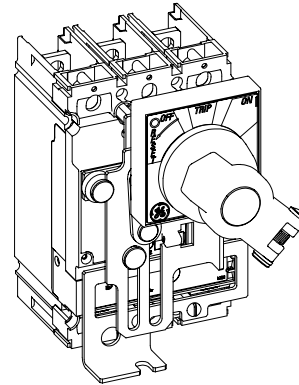
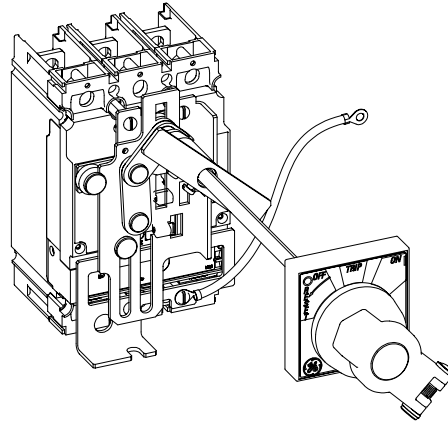
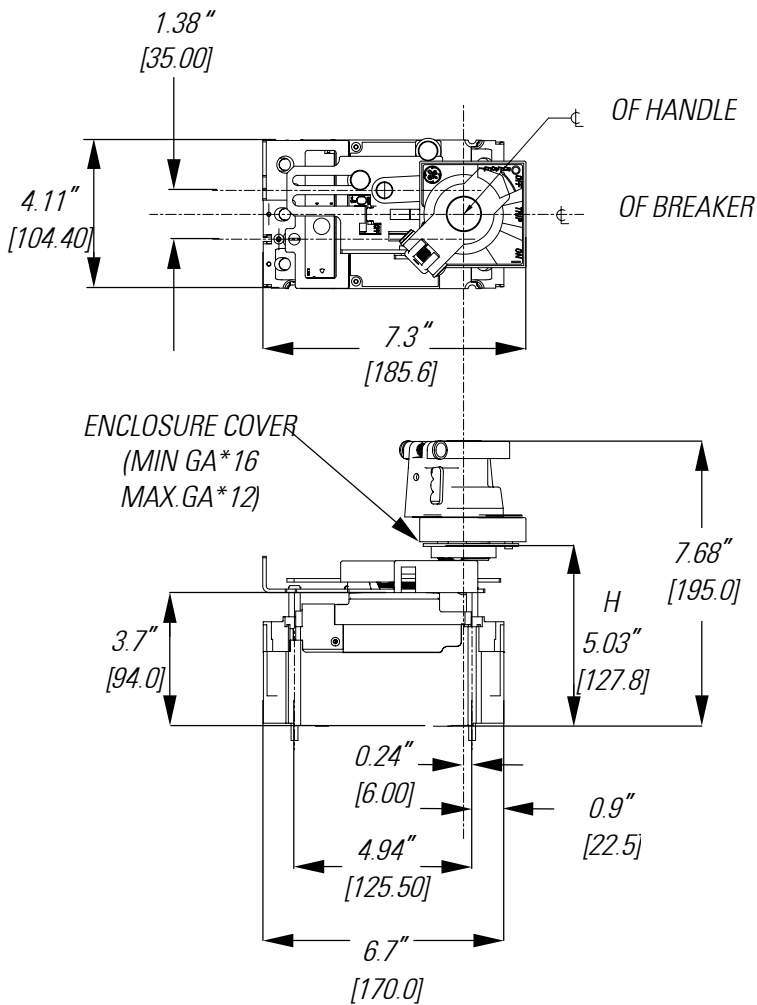
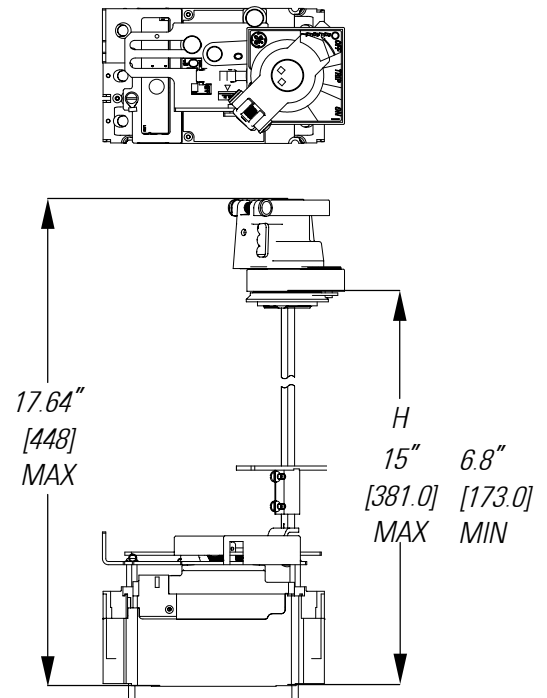

Figure 1a. FENRN
Figure 1b. FENRT
Figure 12. Outline view of completed FENRN installation
Figure 13. Outline view of completed FENRT installation
- FENRN provides the necessary parts for shallow door mount of the handle on the breaker mechanism through the enclosure door, with a box depth of 5 29/32" (150 mm), as shown in Figure 1a. Maintain the dimension "H" [5 1/32" (127.8 MM)] as shown in Figure 12.
- FENRT is for mounting the handle and operator in enclosures with variable depth, as shown in Figure 1b. Maintain the dimension "H" [Min 6 13/16" inches (173 mm) and Max 15 inches (381.0 mm)] as shown in Figure 13.
Figure 12 and Figure 13 are outline views of completed installations with dimensions.